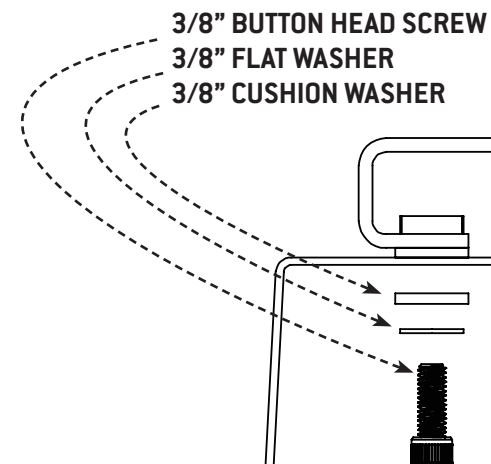

FIG 11
3.1 Once you have the bed rails up and fully mounted, you can simply place the bed panels on and fasten them to the rails using the **3/8-16" Socket Cap Screws, 3/8" Flat Washers and 3/8" Cushioning Washers** (FIG 11).